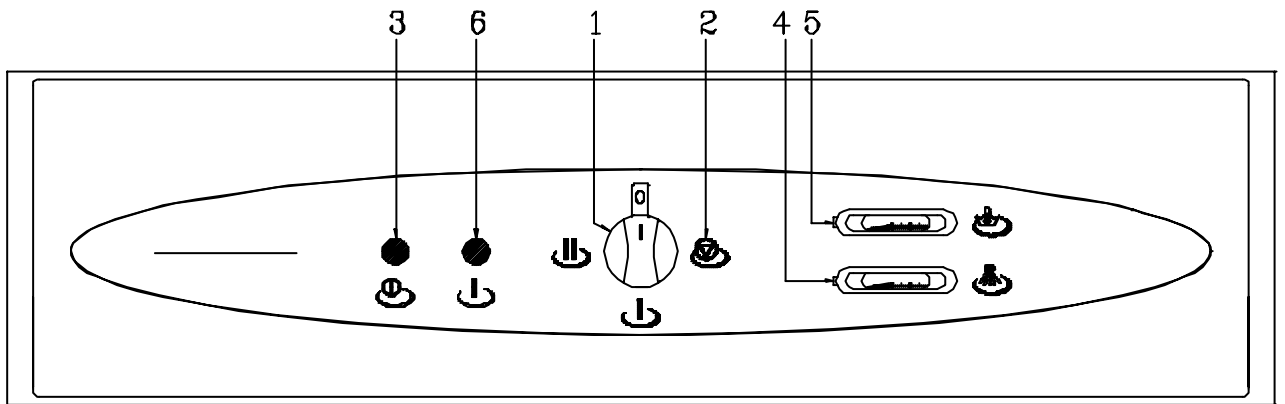

Figure 2
Once connected electrically and hydraulically, turn the selector (1) (Figure 2) to the preparation position (V) (2). The pilot lamp (3) will come on and the appliance will begin to fill the tubs through the rinsing system. The tubs are filled by means of pipes fitted between these, which allow water to flow only in one direction (Rinsing – washing) so as not to dirty tubs with cleaning functions such as Washing 2 and pre-rinsing – rinsing.